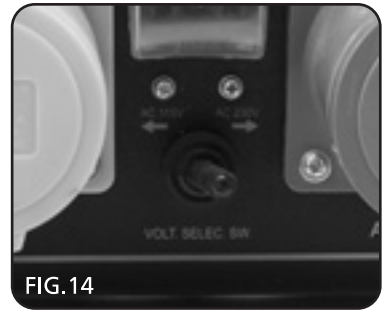

FIG.14
NOTE: There are 2 voltages - please ensure correct voltage is selected via the switch ④ (Fig.14).
2. Lift the circuit breaker switch up to the "ON" position (Fig.14).